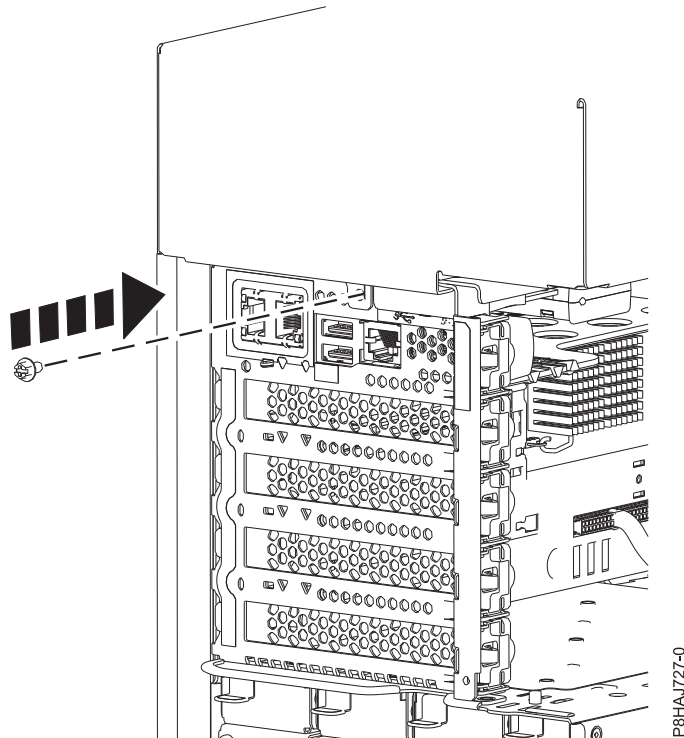

Figure 87. Installing the 8286-41A side cover screw
- 5. Install the side cover rear screw with a Phillips screwdriver as shown in Figure 87 on page 105.